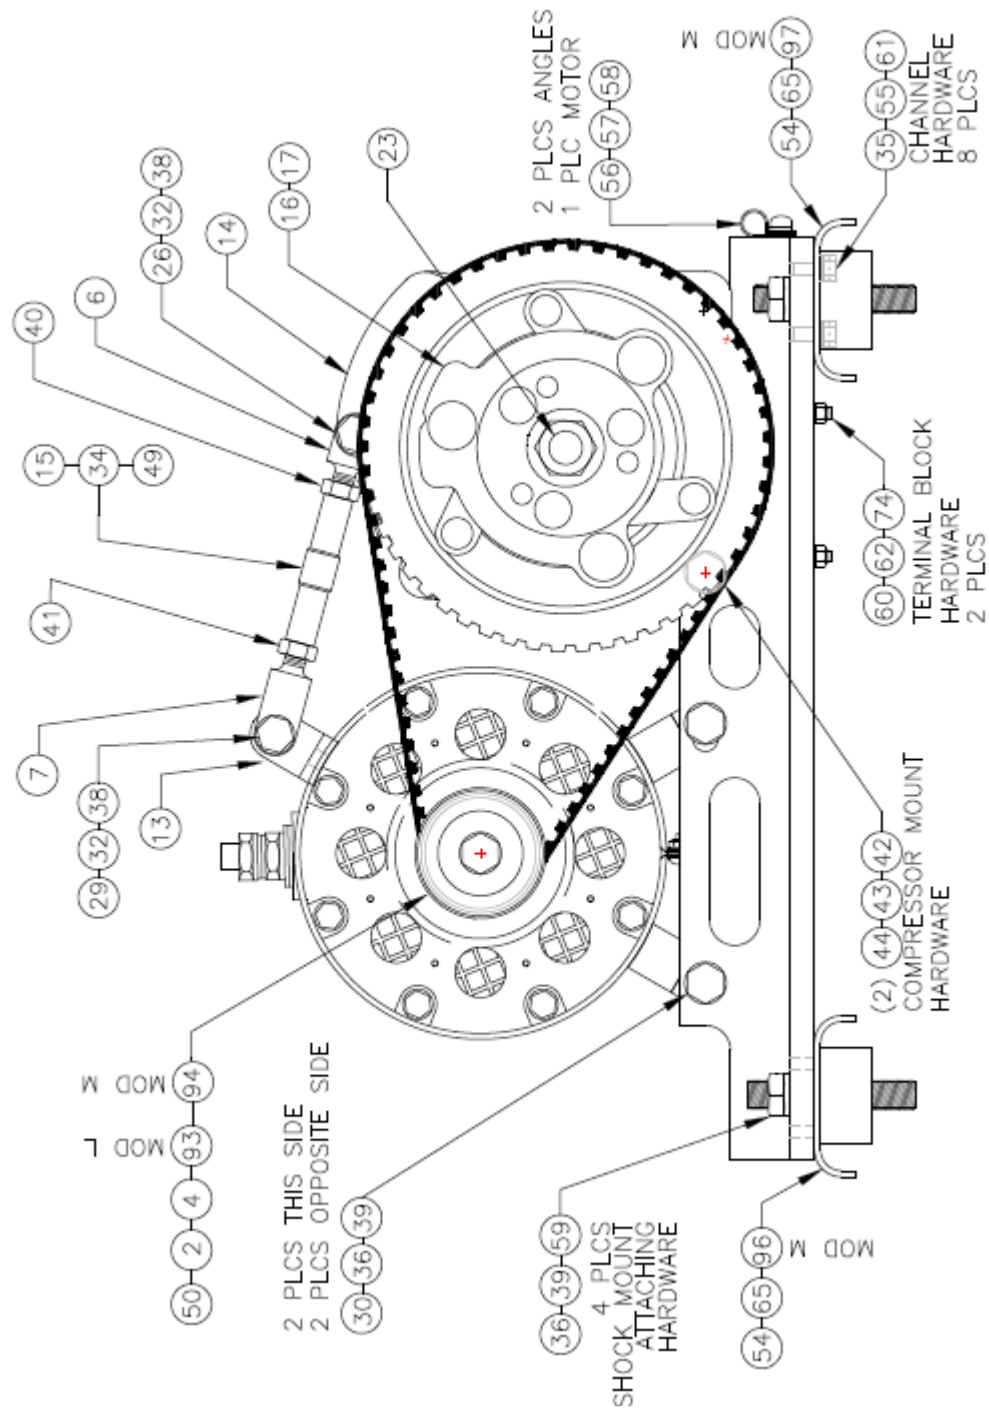

FIG. 4
10.1 REVISION 1: Add MODS D, E, F, G, H, J, K into CMM. Add Z26-8900-8 & -9 to CMM. Add Section 8.3, Figures 4, 5, 6, 7 and 8.